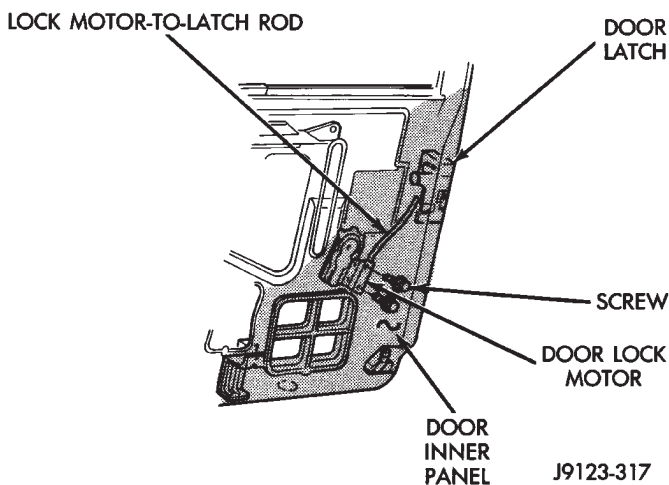

Fig. 13 Lock Motor Removal/Installation
- (1) Raise the window glass to the completely closed position.
- (2) Remove the door trim panel, the waterdam and the noise insulator from the door inner panel. If necessary, refer to the removal procedure.
- (3) Disconnect wire harness connector from the lock motor.
- (4) Disconnect the lock motor-to-latch rod from the motor (Fig. 13).
- (1) Insert the motor in the access hole in the inner panel and position it at the location of the retaining screw holes (Fig. 13).
- (2) Connect the lock motor-to-latch rod to the motor (Fig. 13).
- (3) Install the lock motor retaining screws. Tighten the screws with 11 N·m (95 in. lbs.) torque.
- (4) Connect the lock motor wire harness connector to the door wire harness connector.
- (5) Test and ensure that the latch lock operates correctly.
- (6) Install the door noise insulator, the waterdam and the trim panel. If necessary, refer to the installation procedure.